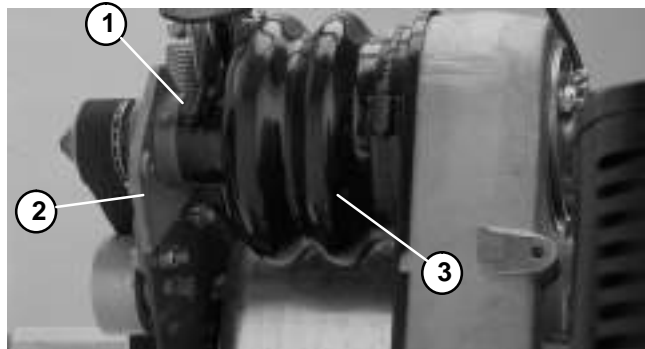

Figure 20
**Note:** On the housing (RH), the hose clamp must be loosened and the differential boot must be removed from the housing before the housing can be removed from the frame and differential axle (Fig. 20).
4. On the housing (RH), attach the differential boot to the housing. Secure the hose clamp to the boot and housing (Fig. 20).